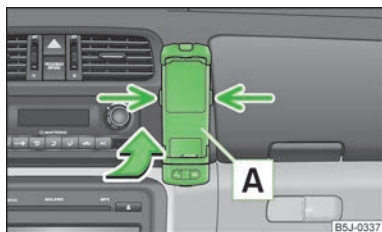

Fig. 90
- First of all push the adapter **A** in the direction of the arrow » Fig. 90 up to the stop into the mount. Then press the adapter slightly downwards, until it locks securely into position.
- Simultaneously press the locks on the mount » Fig. 90 and remove the adapter with the mobile phone.